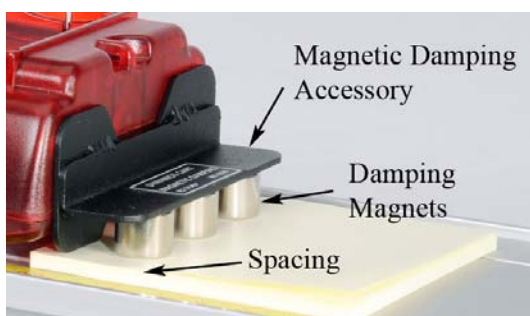

Figure 2. Adjusting Magnetic Damping
1. Use some type of spacer (any non-magnetic material will work) to set the magnet spacing to about 4 mm. Slide the bracket down (see Fig. 2) until the magnets are flush with the spacer, then remove the spacer.